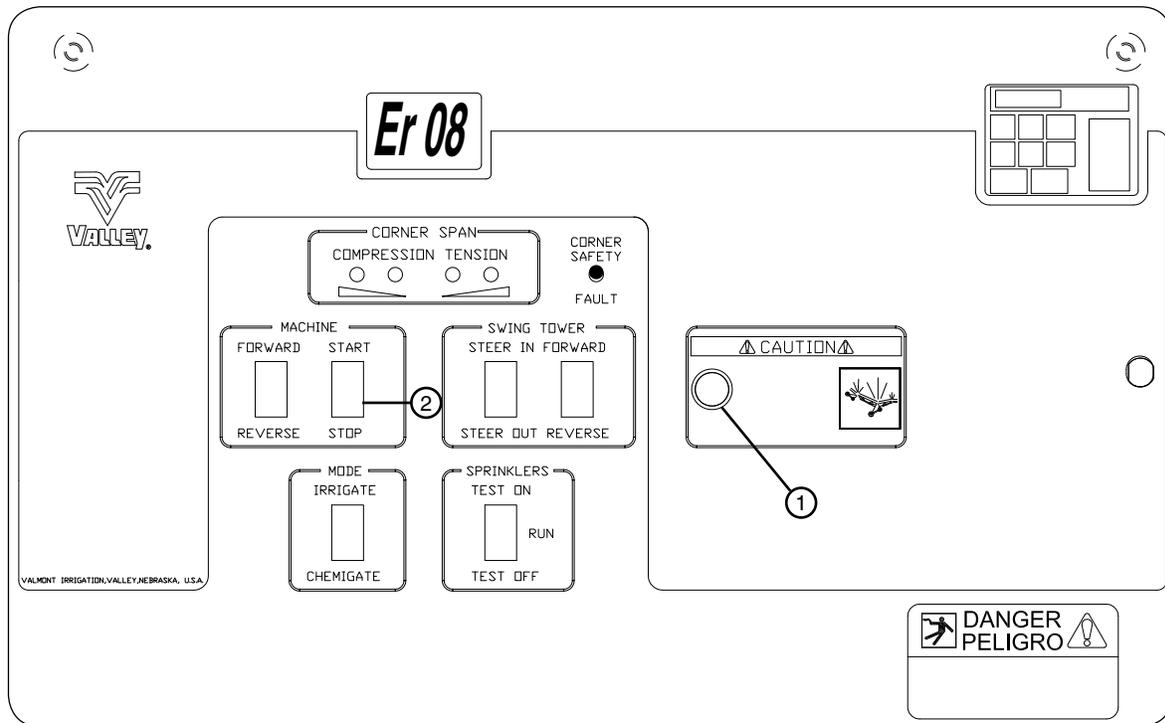

Figure 84-1 1. Steering Override Button
6. Press MACHINE Forward/Reverse rocker switch to appropriate direction. See Figure 84-1.
7. Press MACHINE Start/Stop to START. See Figure 84-1.
8. Once SDU in normal tracks, release STEERING OVERRIDE BUTTON. See Figure 84-1.
10. Press MACHINE Start/Stop to STOP. See Figure 84-1.